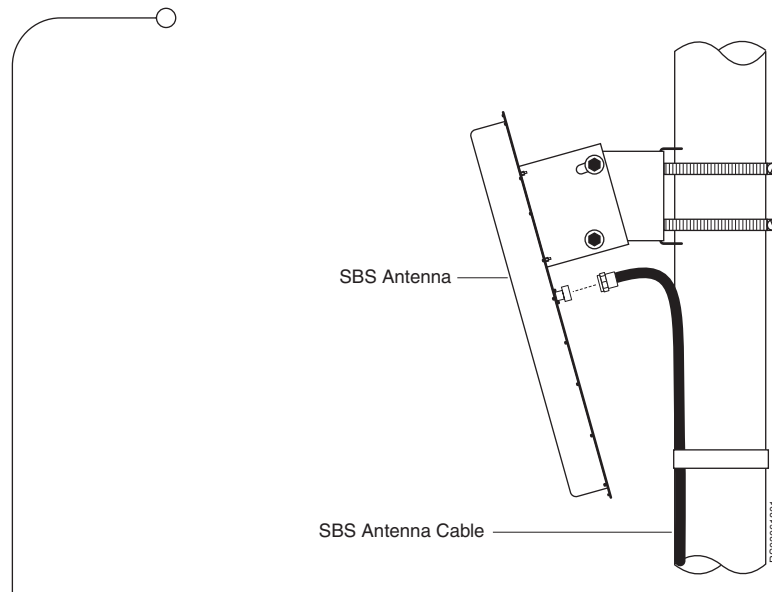

Figure 3.4 SBS Antenna Cable Connection Example
- Connect the SBS Antenna Cable to the SBS antenna and tighten with wrench, as shown in Figure 3.4.